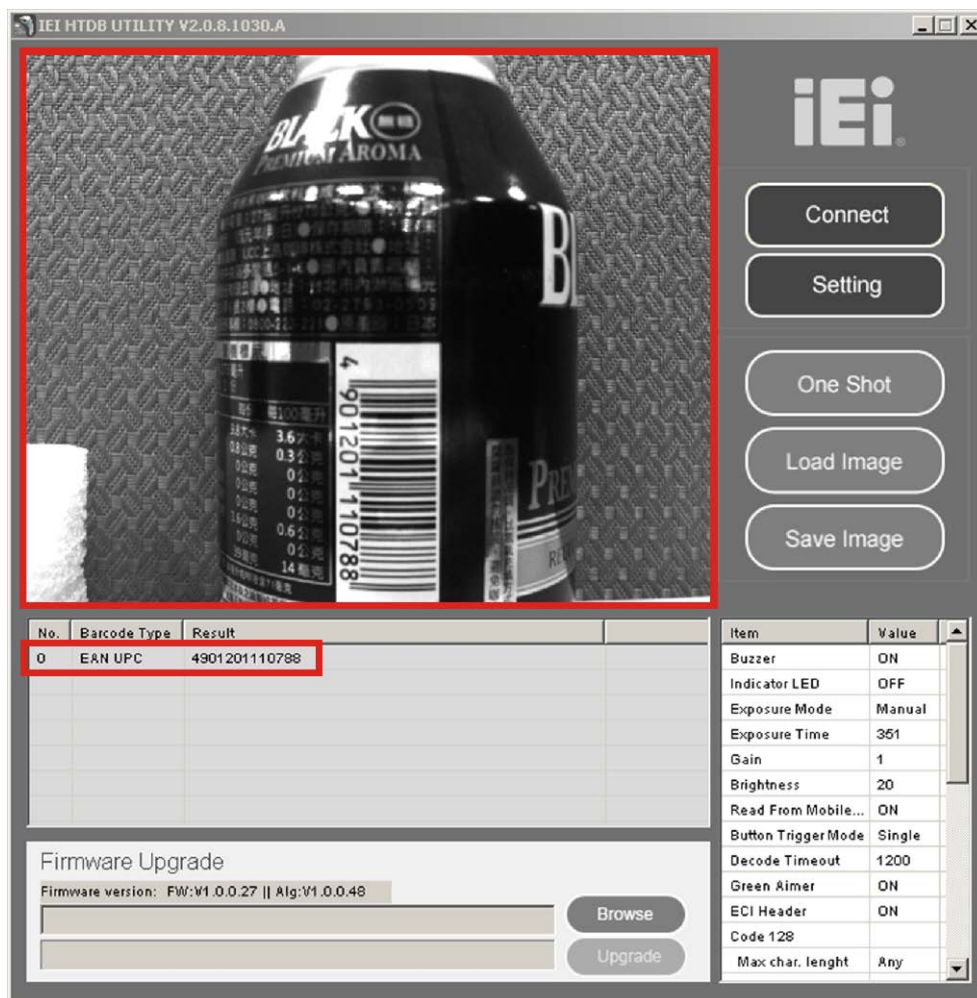

Figure 3-12: Main Menu – Uploaded Image and its Data
- Step 3:** To load a saved image to the utility, click **Load Image** from the main menu, then select the image file to be uploaded. The uploaded image and its data will be shown on the main menu (**Figure 3-12**).